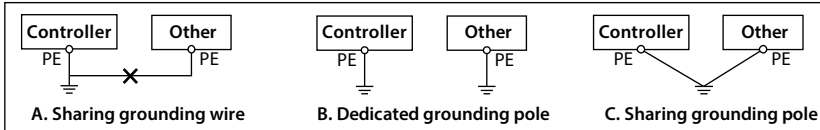

Figure 4-23 Grounding method
Do not share the grounding wire (A) with other power equipment. The grounding electrode (C) can be shared, but each has a dedicated grounding electrode (B) for the best effect, as shown in Figure 4-23.